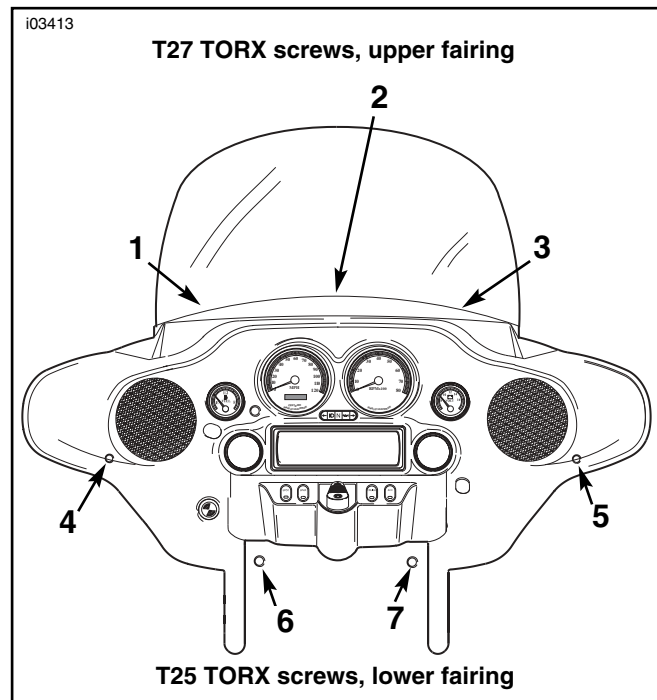

Figure 1. Removing Outer Fairing Fasteners
3. See Figure 1. Remove the outer fairing and windshield:
- b. See Figure 1. Locate the pattern of eight 0.31-inch diameter holes in the metal plate on the inside-bottom of the Tour-Pak.